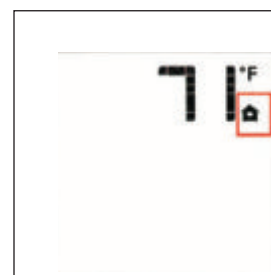

Figure 7.5. Burner shut-down
- Press the ON/OFF Key. The display will show only the room temperature and icon. At the same time, the Receiver will deactivate the call for heat and the burner will shut down. Fig. 7.5. A single "beep" from the Receiver will confirm reception of the command.